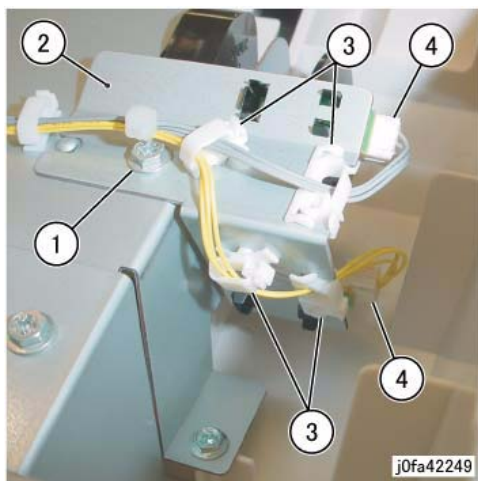

Figure 3 Removing the Stacker Sensor Assembly
11. Remove the Stacker Sensor Assembly (Figure 3):